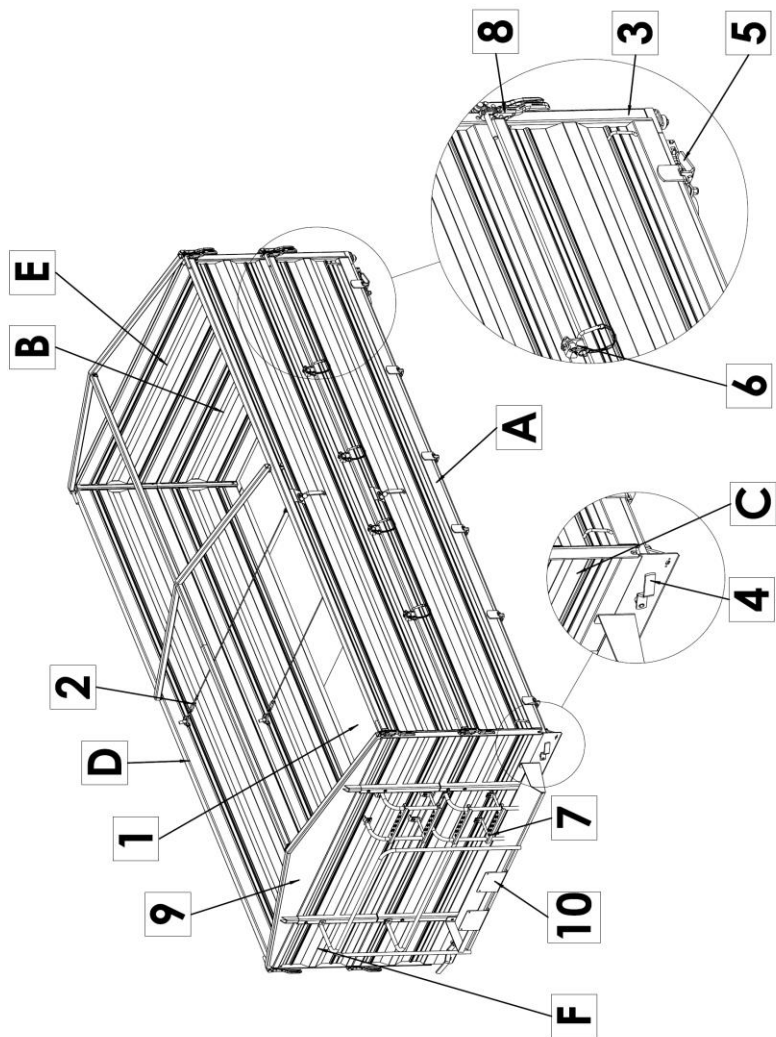

Figure 6 Trailer Body
The loading crate of the trailer (fig. 6) is formed by the upper frame (1) with a welded steel floor, A, B, C walls and wall extensions D, E, F.